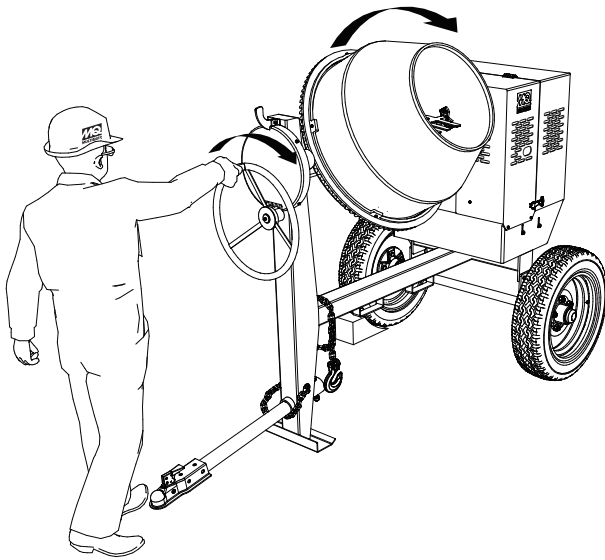

Figure 23. Mixing Drum Positioning
1. To position the tub, make sure the mixer is placed on firm level ground, then pull up on the dump latch (Figure 23) and turn the hand wheel until the tub is at the desired position. Once the tub is at the desired position, pull down on the dump latch to lock the tub in position.